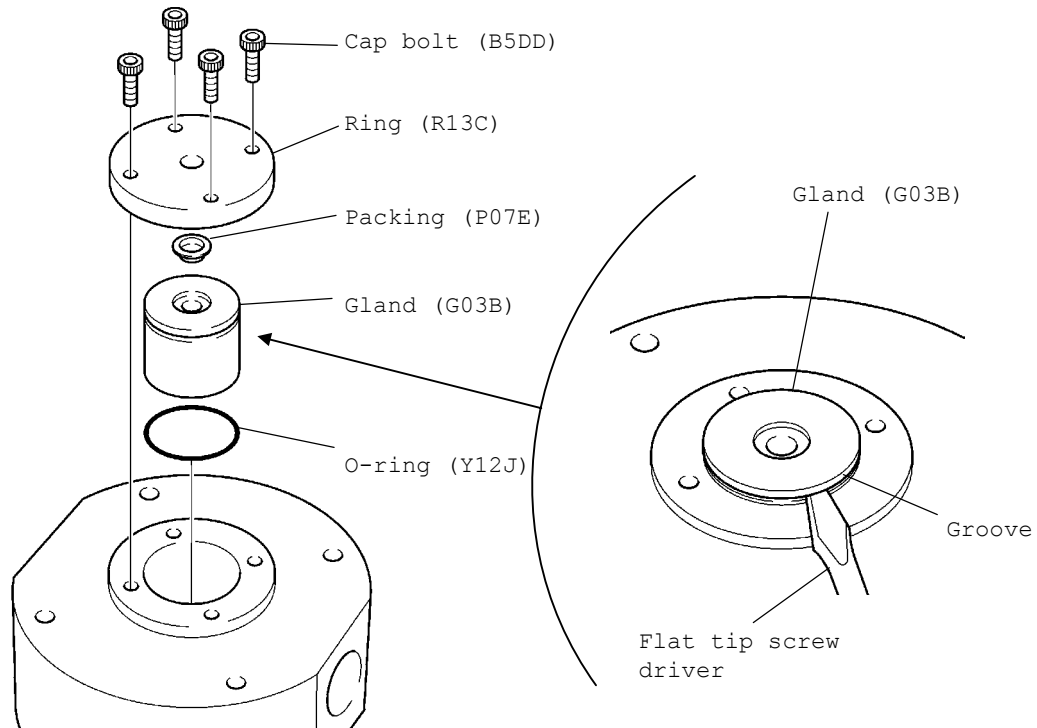

Fig. 7-14 Removal of packing and gland (DV-1.8)
- (1) Replace the O-ring with a new one.
- (2) Confirm the O-ring is installed, then mount the gland. Refer to Fig. 7-14.